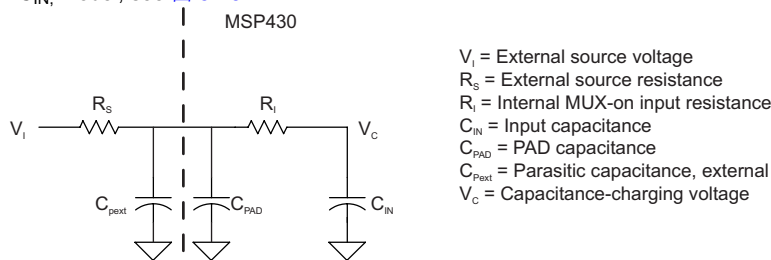

图 5-16. eCOMP Input Circuit
(1) For details on the eCOMP CIN, model, see 图 5-16.
(1) For details on the eCOMP CIN model, see 图 5-16.